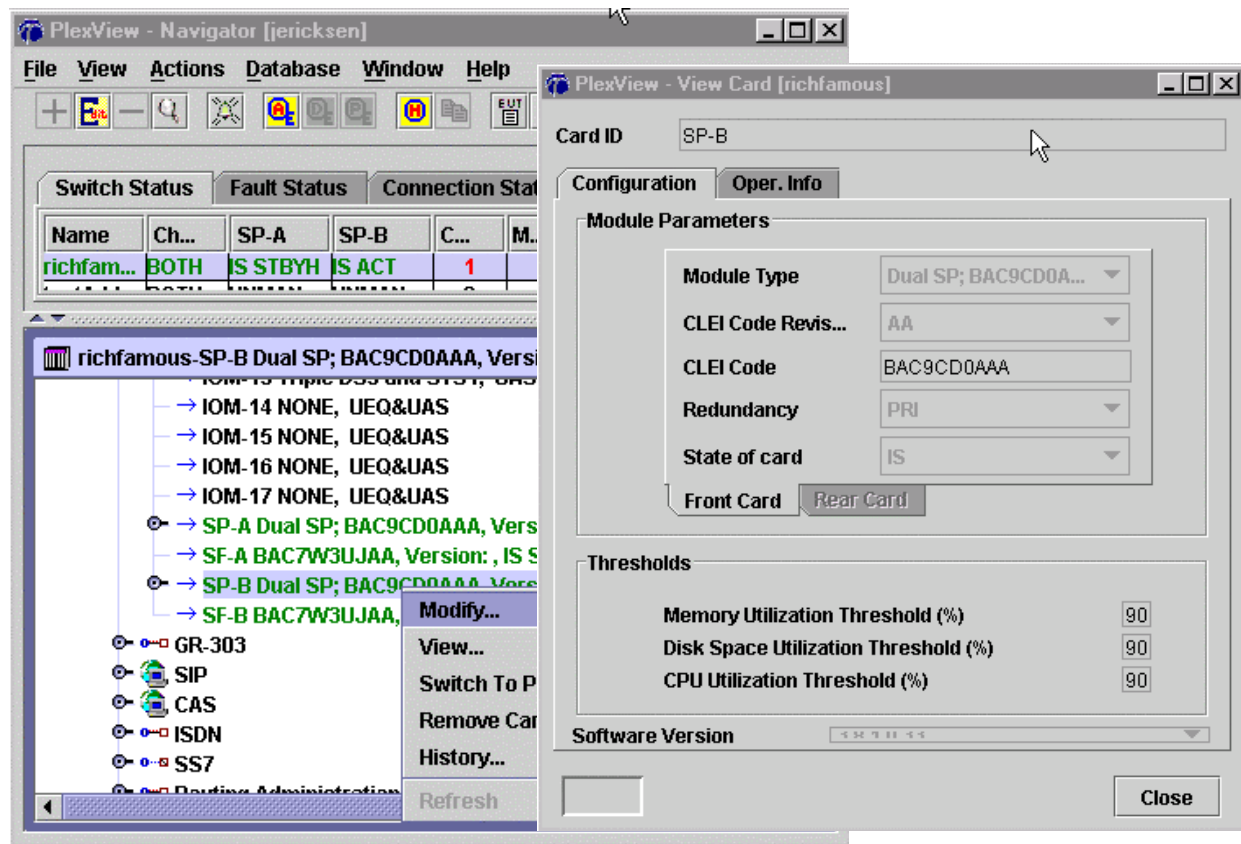

Figure 4. Retrieving SP Configurations
22. Double-click the switch to select it for the main panel and then double-click *Cards*. Right-click the desired SP, select *View* and then click *Configuration* if not already selected. See Figure 4.
If using the **EMS**, then refer to Step 22 and see Figure 4.